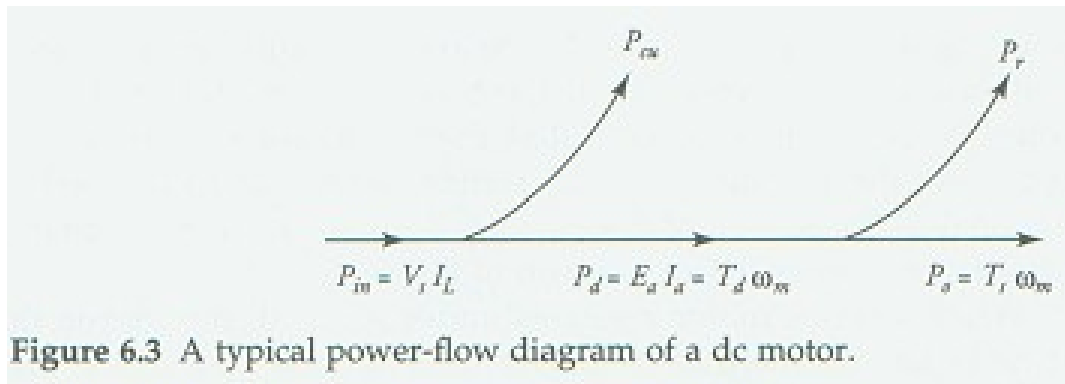

Figure 6.3 A typical power-flow diagram of a dc motor.
- A typical power-flow diagram of a dc motor is shown in Figure 6.3.